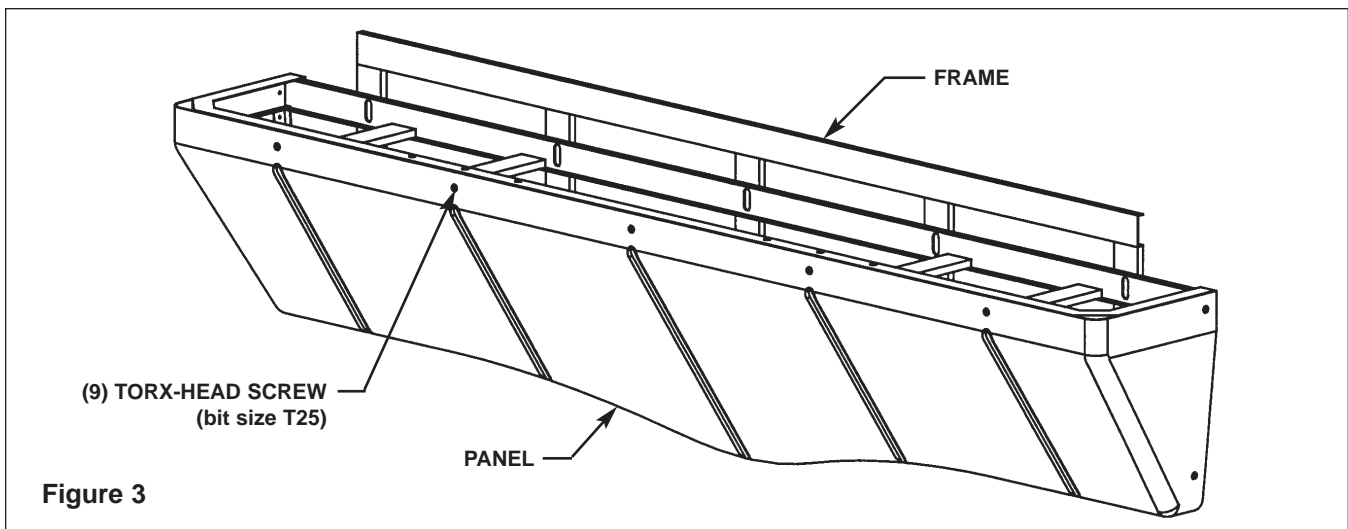

Figure 3
1. Using a T25 bit, remove the nine Torx-head screws securing the panel to the frame and remove the panel (see Figure 3).
4. After testing is complete, reinstall panel to frame. Fasten panel with seven Torx-head screws provided (see Figure 3 on page 7).